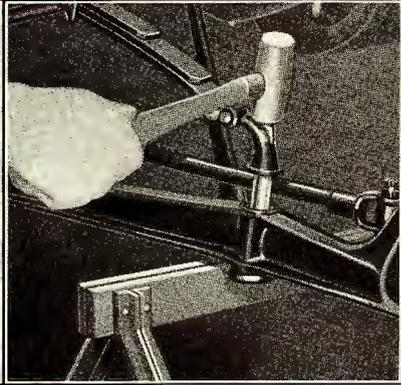

Fig. 381
- 726 To install a new front axle, position the axle on horses which are placed underneath car. Insert ends of spring perches into axle, then lower car with the chain falls until weight of car rests on axle and horses (See Fig. 381). Perches can then be seated in axle by tapping them with a lead hammer.